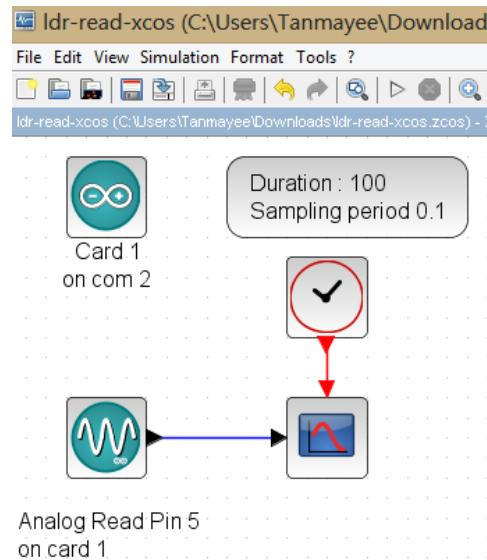

Figure 6.5: Xcos diagram to read LDR values. This is what one sees when Origin/
1. First we will read the LDR values and display it. When the file required for this experiment is invoked, one gets the GUI as in Fig. 6.5. In the caption of this figure, one can see where to locate the file.